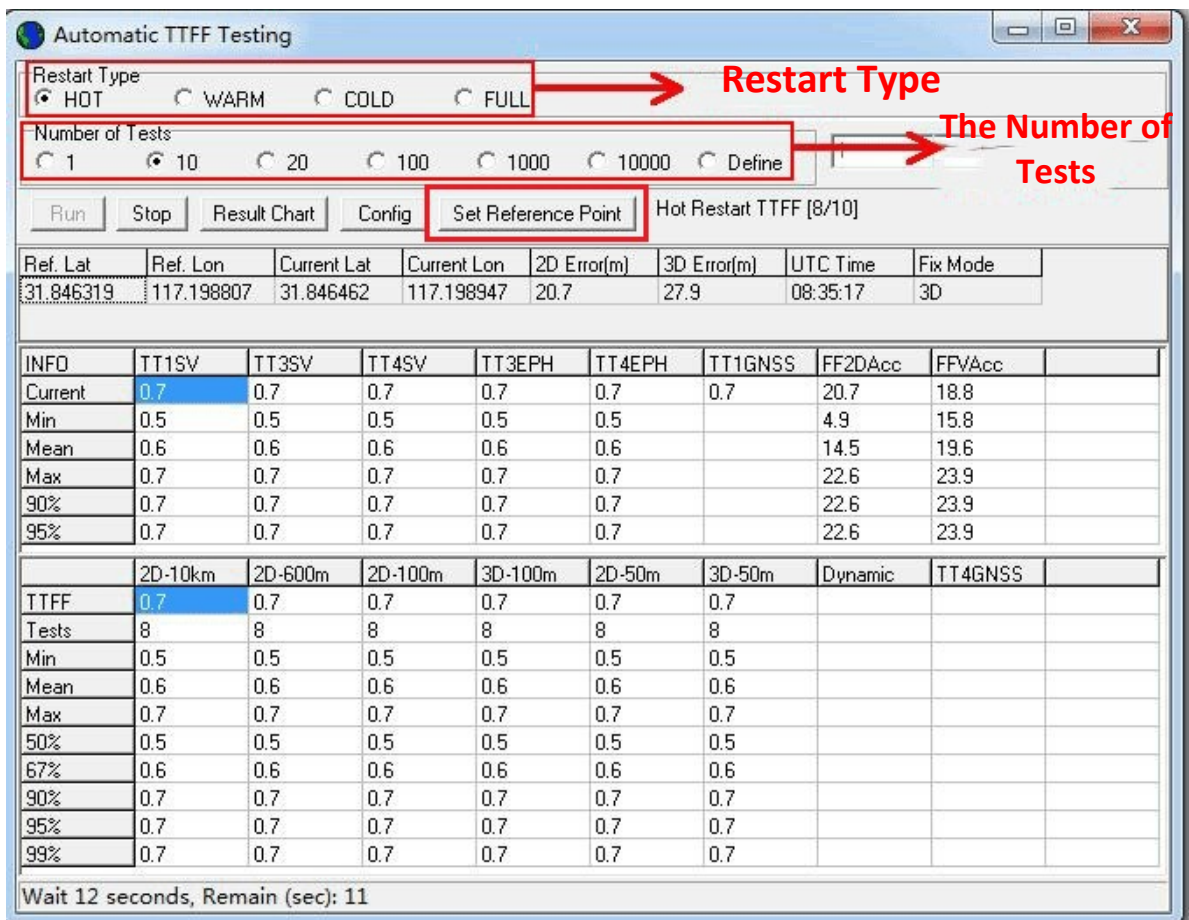

Figure 18: Static TTFF Testing via PowerGPS
Step 3: Return to the interface shown in Figure 18 and click **“Config”** to get into the interface of TTFF Configuration. Then set **“TTFF Time- out (sec)”**, and finally click **“OK”**.